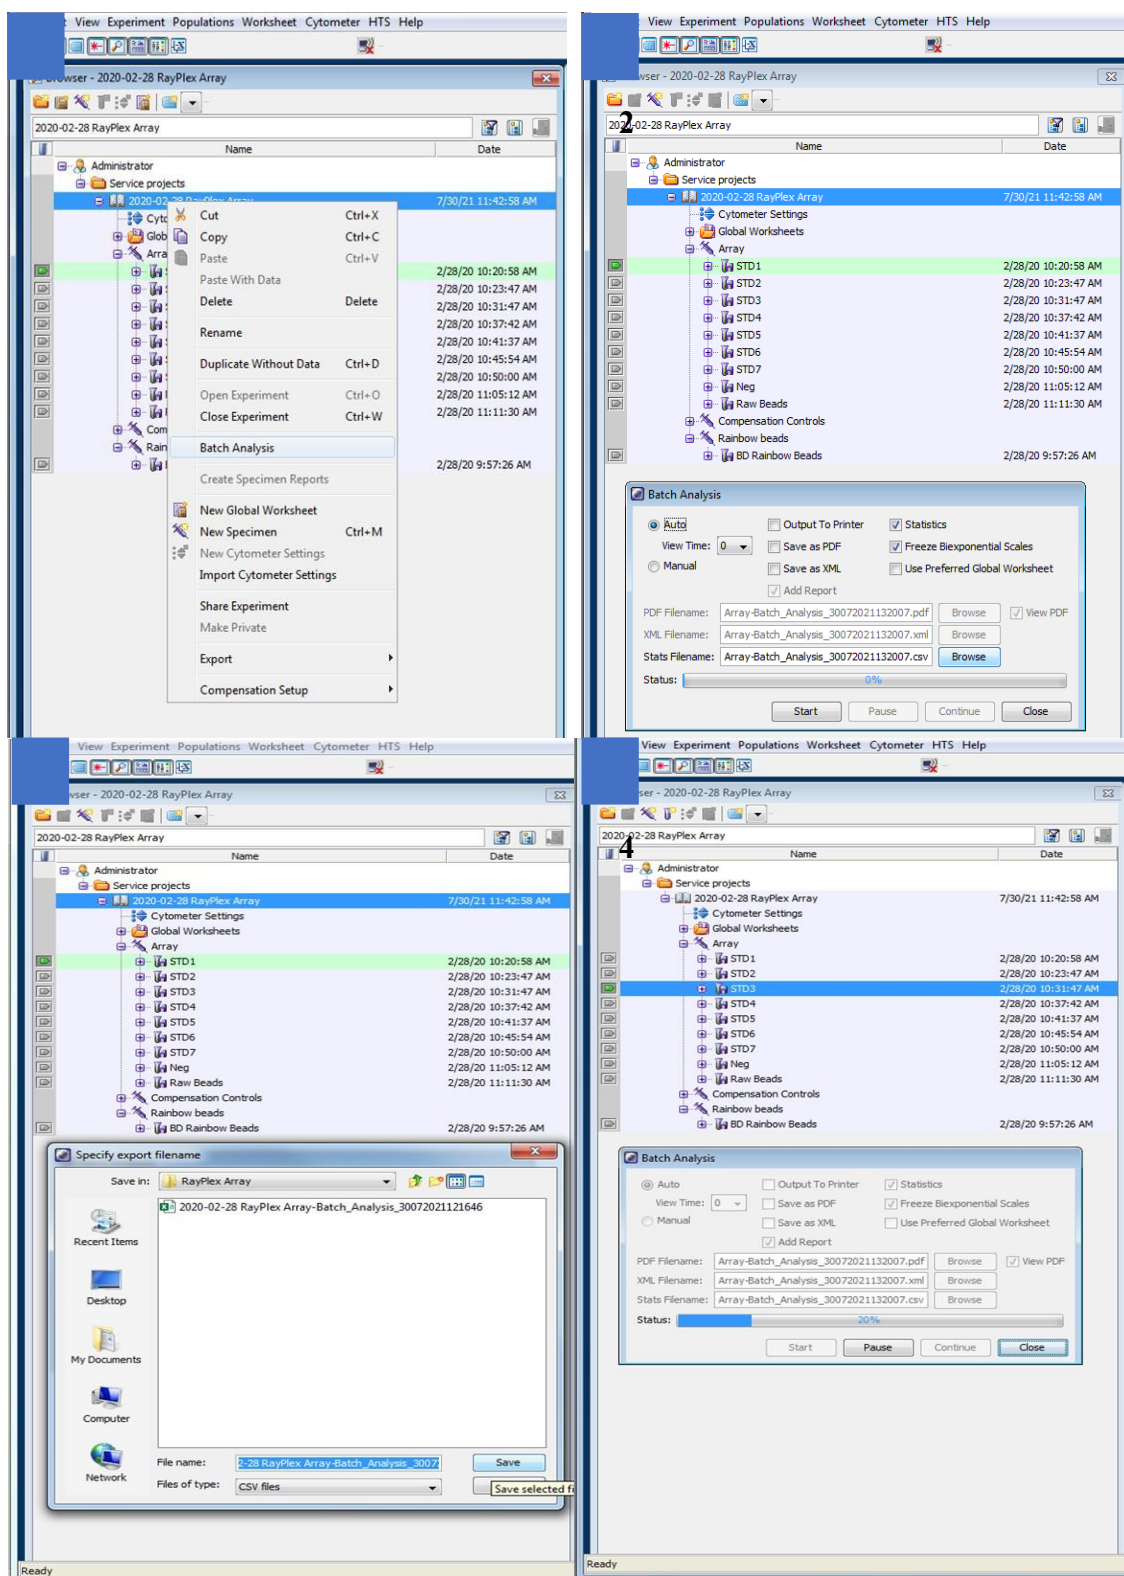
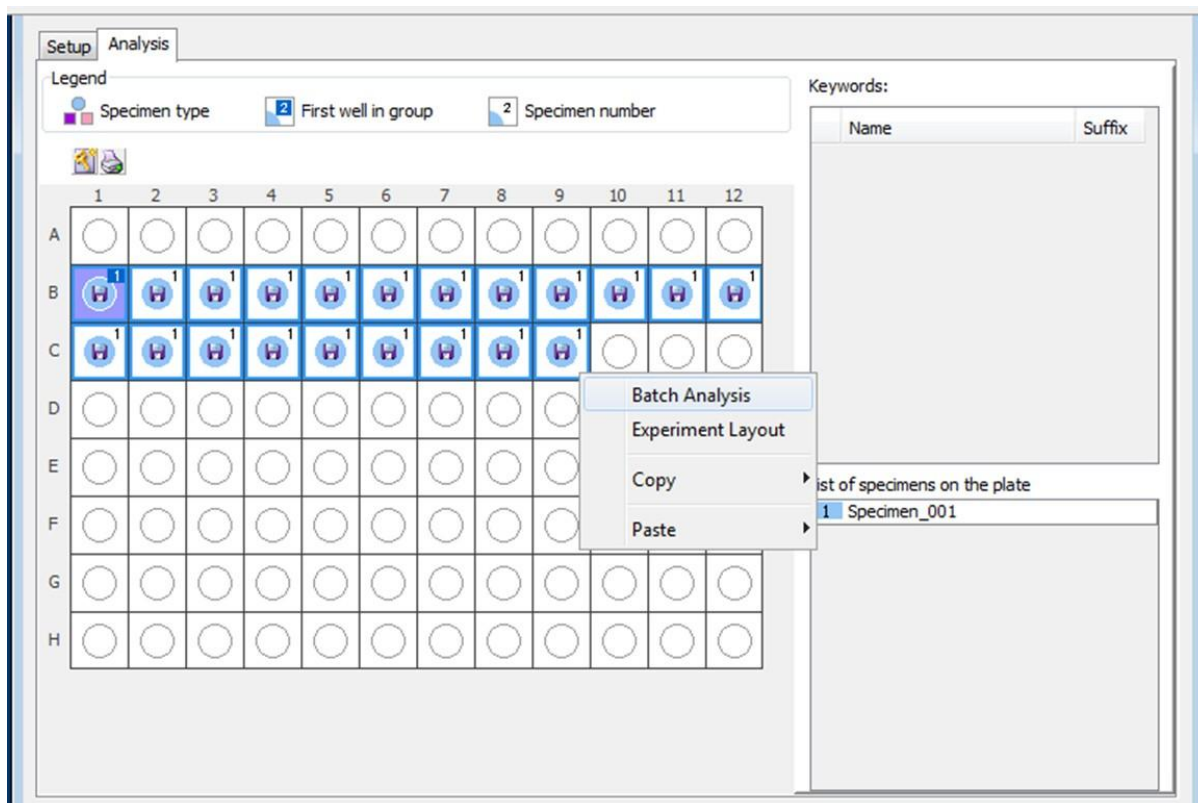

Figure 4. Screen shot showing how to begin the batch analysis through manual tube mode.
Figure 5. Screen shot showing how to begin HTS batch analysis.
Batch analysis allows exporting PE MFI data of each bead population directly from FACS Diva. Before batch analysis, it's important to create statistics view from the dot plot of gated beads populations and choose "PE-A Median" to be shown (Figure 4). Batch analysis can be done in either manual tube mode or HTS mode. Both methods for batch analysis are described below (Figure 5 and 6).
1. Create a dot plot by SSC-A (linear) and APC-A (log) to show all beads populations and make a gate for each population (see Figure 4, "Gated Dot Plot"). Right click on the dot plot to "Create Statistics View", then edit the statistics view so that "PE-A Median" of gated beads populations are shown (Figure 4, "Statistics View of Gated Plot").